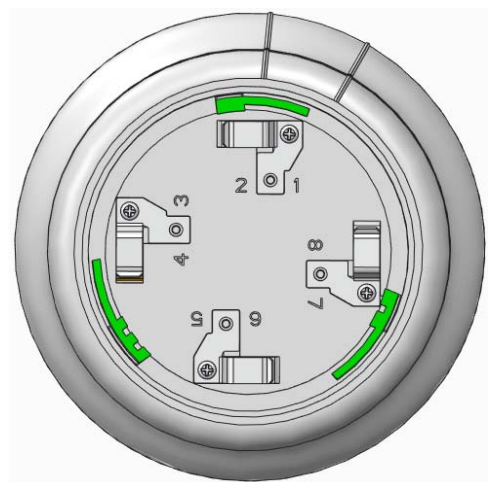
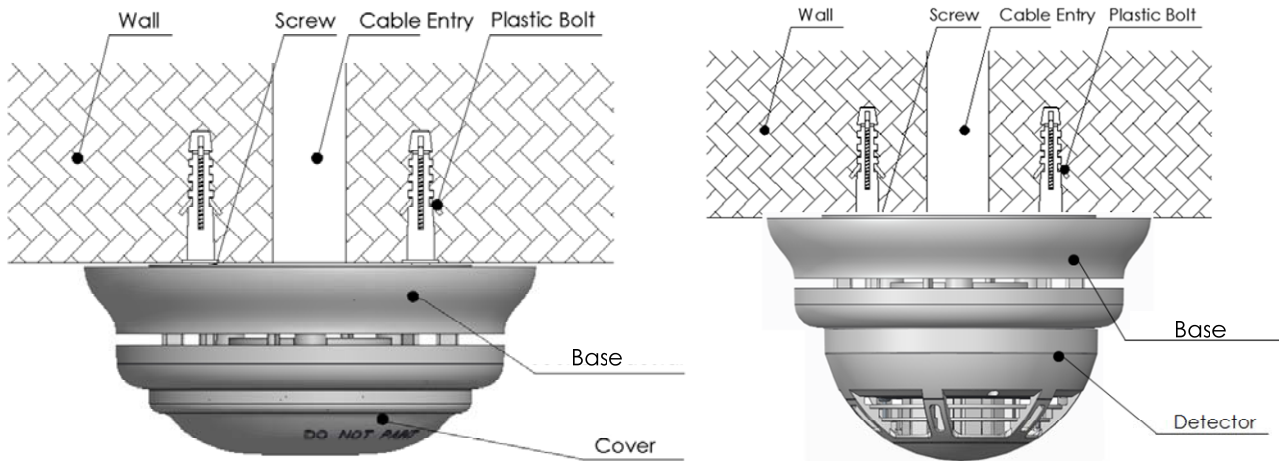

Fig.3 Top structure of the Sounder Base
Fig.4 Addressable Sounder Base with an upper cover or a detector
3. The top structure of the Addressable Sounder Base as shown in Figure 3. An upper cover or a detector can be mounted on the Addressable Sounder Base, as shown in Figure 4.